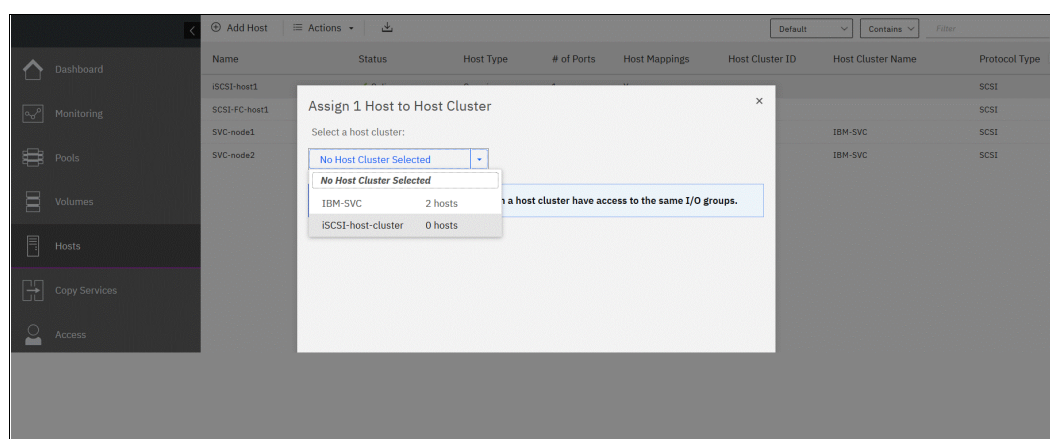

Figure 7-39 Assigning a host to a cluster
2. Select the cluster to which the host is to be added (see Figure 7-39) and click **Next**.